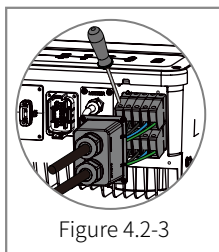

Figure 4.2-3
- **On-grid & backup connections:** Confirm that the on-grid is connected to the power grid and that the backup is connected to the loads and that the polarities (e.g. L1/L2/L3/N are in sequence) are not reversed. Refer to figure 4.2-3.